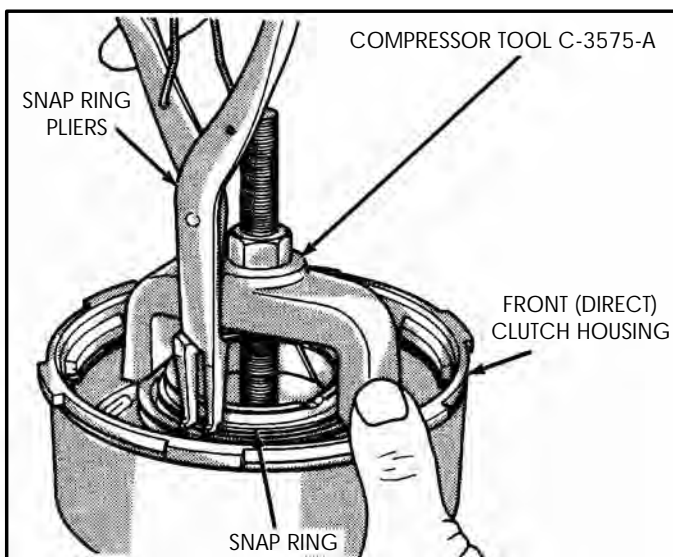

Figure 69
4. Install compressor tool, as shown in Figure 69, and remove return spring retainer snap ring.
18. Install compressor tool, as shown in Figure 69, and carefully compress the return spring and retainer down until the snap ring groove is fully exposed (See Figure 69).
19. Install front clutch retainer snap ring using the snap ring pliers, as shown in Figure 69.